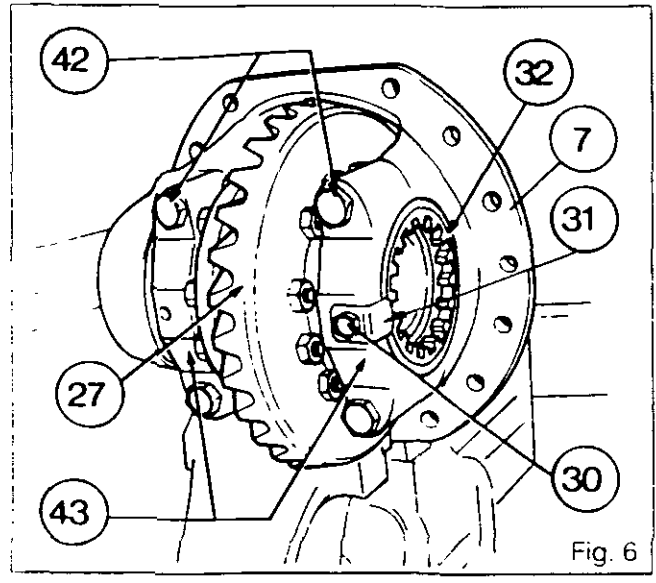
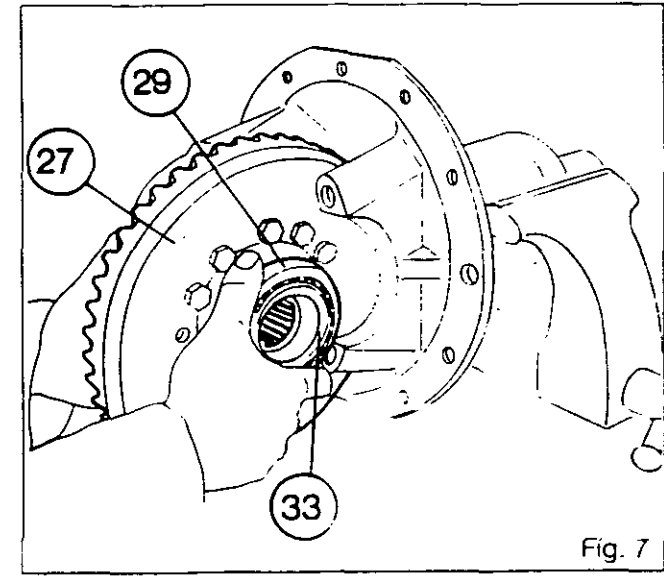

Fig. 6
Fig. 7
- 16. Place the casing (7) in a soft-jawed vice (Fig. 6).
- 17. Remove the bolt (30) and its retainer (31) (Fig. 6).
- 18. Remove the splined nut (32) using the special, locally made spanner (see section M).
- 19. Remove the four bolts (42), detach the bearing halves (43) (Fig. 6).
**Note: Carefully remove the bearing half on the lock control side; with the spring /17 compressed, the washer (21) should remain in the casing (7).**
- 20. Remove the complete differential assembly with the bearing cones (33) and the cups (29) (Fig. 7). Separate the cups from the taper roller bearings. Remove the shim(s) [22].